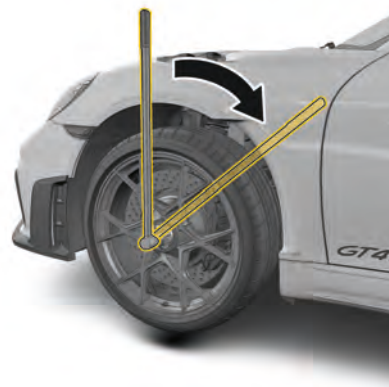

Fig. 213: Tightening the central bolt
2. Tighten central bolt to **73.75 ftlb (100 Nm)** using a torque wrench (Fig. 213).